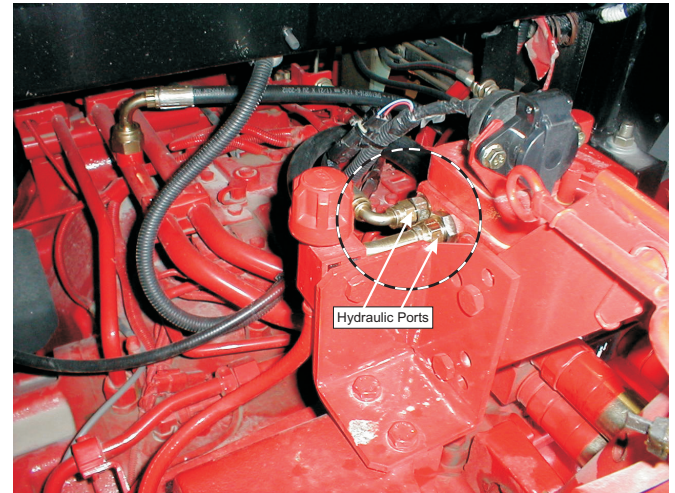

Figure 8
3. Remove 22MM plugs (41). Install 22MM x 1.5 straight male O-ring x JIC adapter fitting (1) into port. Remove cap on return line under cab platform. (Figures 8)
4. Attach 90° fitting on 1/4" x 44" hydraulic hose (21) to check valve adapter (2). Route hydraulic hose (21) to valve (9) and connect to 90° fitting (7) at load sense port on valve (9). Attach 90° fitting of 1/2" x 44" hydraulic hose adapter fitting (24) on left side of power beyond manifold and route to pressure port 90° elbow (6) on loader valve (9). Attach 90° fitting of 1/2" x 44" hydraulic hose (20) to oil line tube under cab.